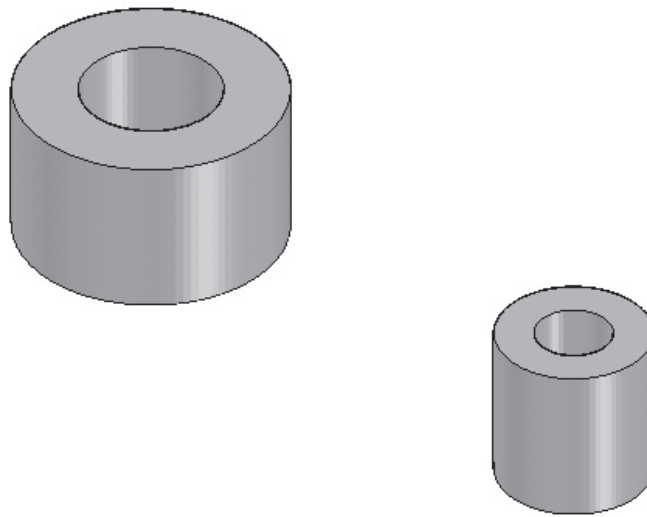

Figure 4-68 Base feature of the model
- Create the base feature on the top plane, refer to Figure 4-68.
- Exit the sketching environment and then extrude the sketch symmetrically through a distance of 25 units. The base feature of the model is shown in Figure 4-68.